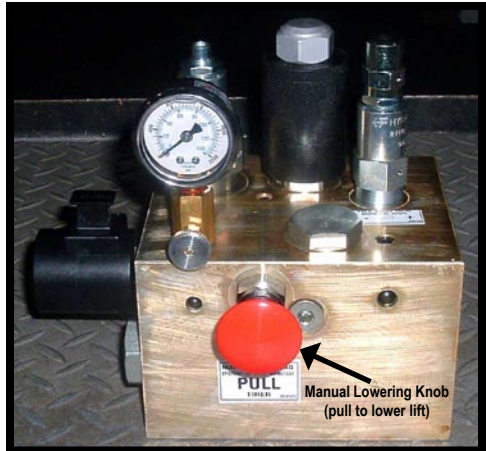

Figure 3 EPV Valve
- 5) Locate the red manual release knob on the EPV Valve and pull the knob to lower the cab (refer to Figure 3). Maintain a constant pull on the knob until the elevator reaches the lowest landing and stops automatically. (Although you may not be able to see the elevator, this is readily detected, as there will be no further noise as the oil flows to the reservoir).